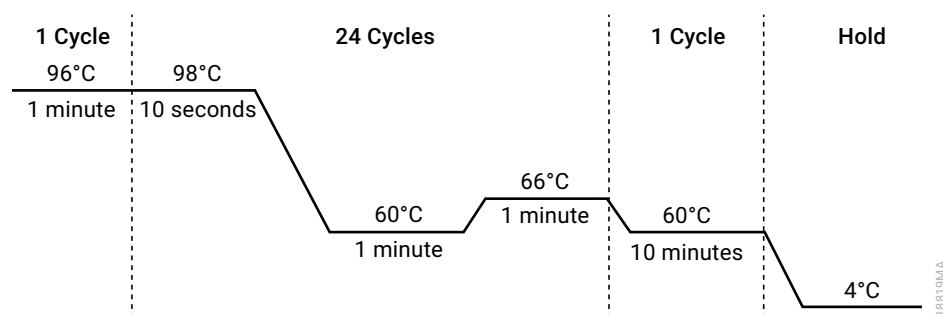

Figure 6. Thermal cycling protocol for the Mastercycler® X50s PCR System.
2. Select and run the protocol provided below and in Figure 6. The total cycling time is approximately 75 minutes.